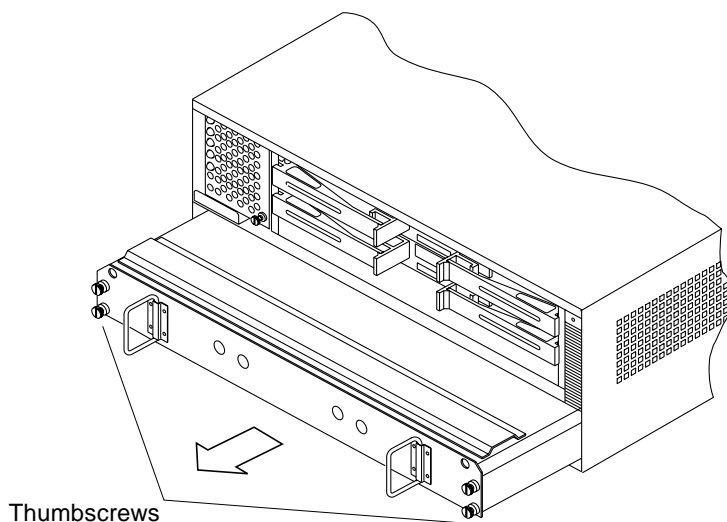

FIGURE 7-3 Removing the Battery Unit
3. Loosen the four thumbscrews at the front of the battery (FIGURE 7-3).